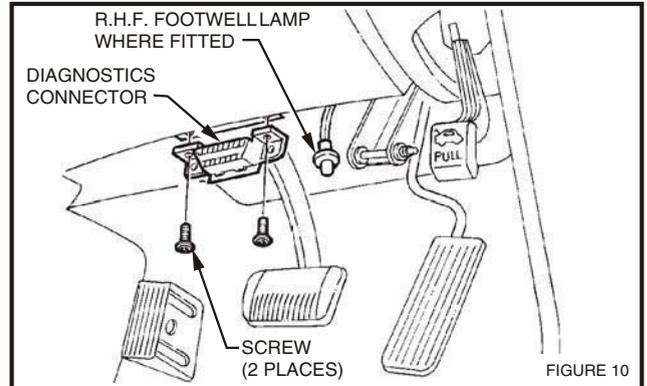

FIGURE 10
- 15. Remove 2 screws securing diagnostics connector to instrument panel lower trim and allow connector to hang, refer fig. 10.